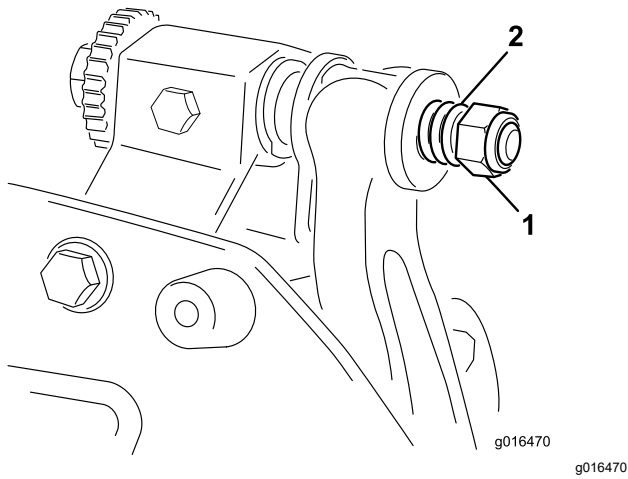

Figure 17
- Tighten the spring tension nut until the spring is collapsed, then back it off 1/2 turn (Figure 17).